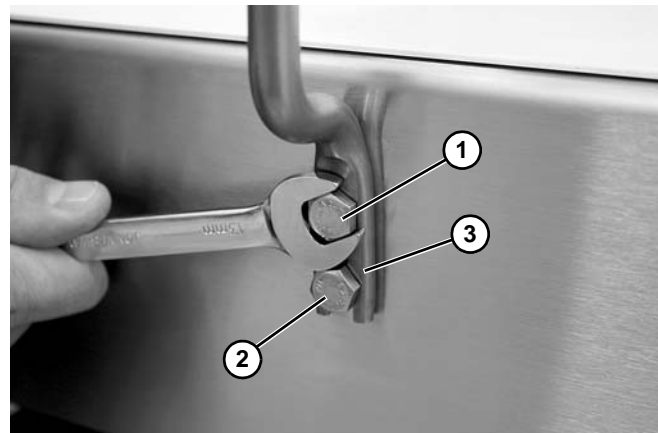

Figure 37
1. Remove the top bolt (Figure 37, item 1) and loosen the bottom bolt (Figure 37, item 2).
2. Install the guide post (Figure 37, item 3) behind lower bolt. Reinstall top bolt and tighten bolts.